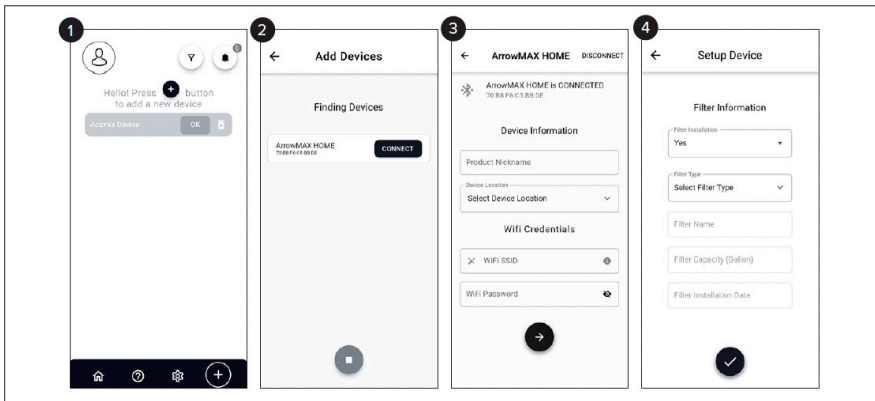

Figure 13: Set up the App
- b. The device then should be added to the account through the following steps as illustrated in **FIGURE 13**.